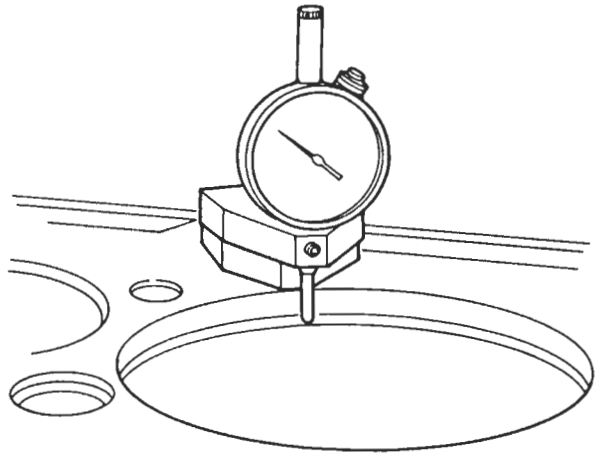

Figure 16. Checking Depth of Counterbore for Cylinder Liner with Tool J 22273–01
6. Make sure the cylinder liner counterbores in the block are clean and free of dirt. Then, check the depth (Figure 16.) The depth must be .4770 to .4795 inches (cast iron block) and must not vary more than .0015 inch throughout the entire circumference. The counterbored surfaces must be smooth and square with the cylinder bore within .001 inch total indicator reading. There must not be over .001 inch difference between any two adjacent cylinder counterbores when measured along the cylinder longitudinal centerline of the cylinder block.